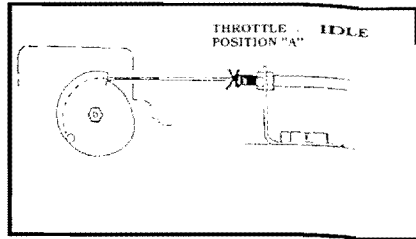

Figure 4
A. Make a mark on the throttle cable when the throttle is in the idle position. **Figure 4**